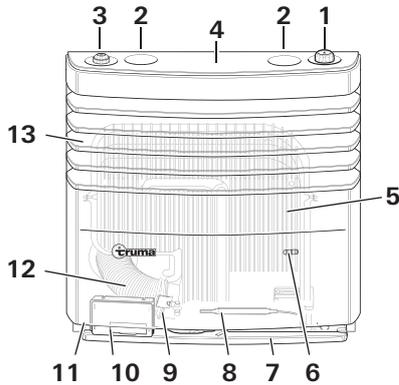

Figure 1
3. Monitor the ignition process through the mica window (Figure 1 – 6 or 2 – 6). A flame can be seen when ignition is successful.